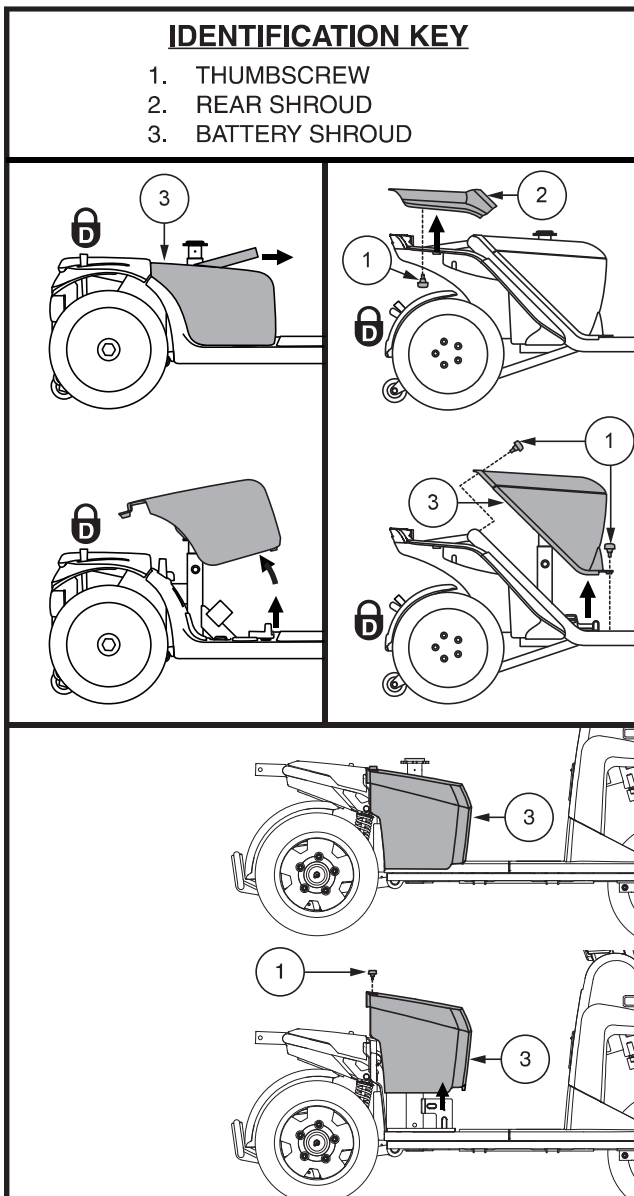

Figure 15. Battery Shroud Removal/Installation
1. Remove the seat and battery shroud. **See figure 15.**
- a.) For models 614 and 714, remove the rear shroud by removing the two (2) thumbscrews that secure it to the scooter frame, and then lifting the shroud straight up and off of the scooter. **See figure 15.**
- b.) For models 614 and 714, remove the battery shroud by removing the four (4) thumbscrews that secure it to the scooter frame, and then lifting the shroud straight up and off of the scooter. **See figure 15.**